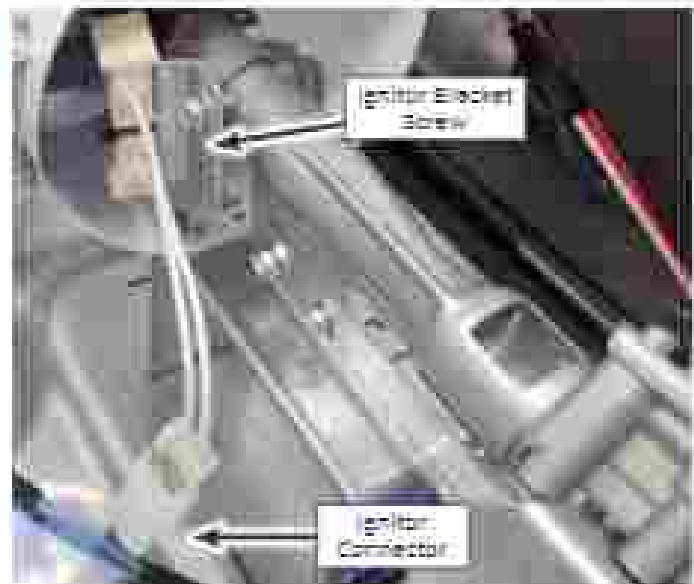

Figure 2 - Removing Ignitor
5. To remove the ignitor (see Figures 2 & 3):